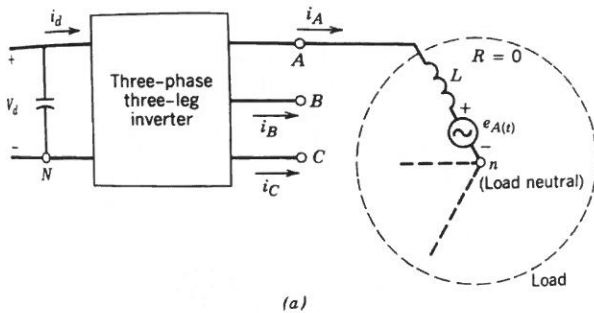
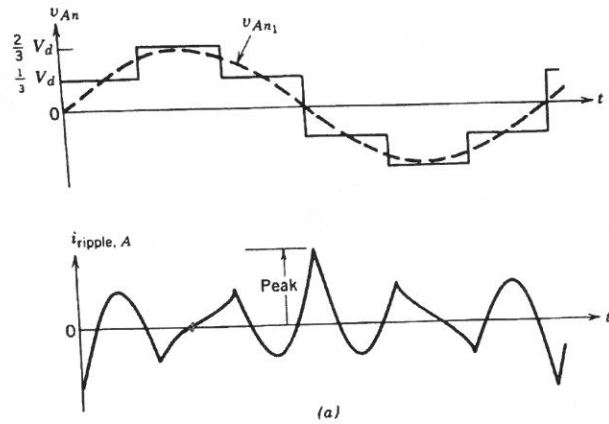

Fig.8-25a
Fig.8-26a
- 1.2 A three-phase inverter works in square-wave mode. $V_{LL}=200V$ with $f=52Hz$ with a load shown in Fig.8-25a with $L=100mH$. Calculate the current ripple based on Fig.8-26a. (10%)